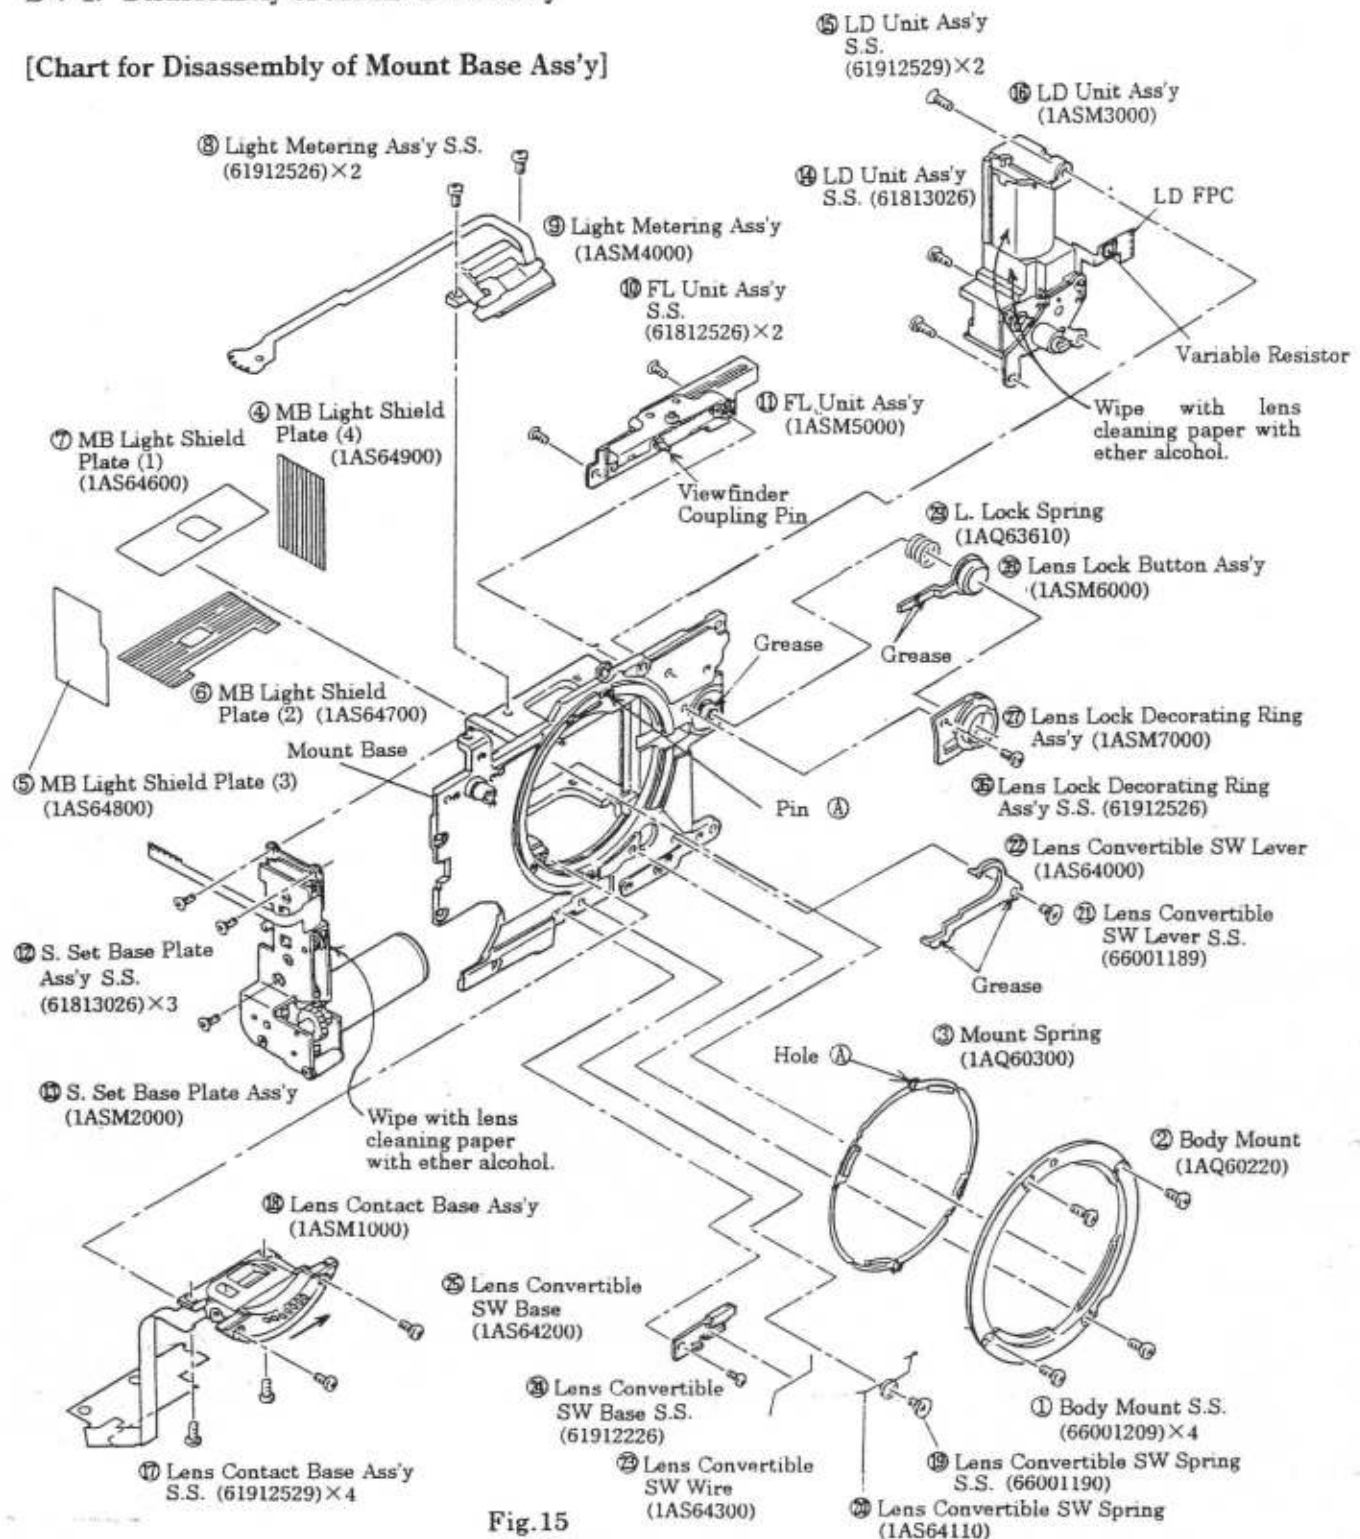

Fig.15
- 1) Remove parts in the numerical order of ① to ⑨ shown in Fig. 15.
- 3) Remove parts in the numerical order of ⑩ to ㉙ shown in Fig. 15.
- Do not use any of the MB Light Shield Plate (1) (1AS64600), MB Light Shield Plate (2) (1AS64700), MB Light Shield Plate (3) (1AS64800) and MB Light Shield Plate (4) (1AS64900) that have been peeled off once, since their adhesive strength is weak.
- Be sure to apply Grease (LOGENEST LAMBDA A-74) to the specified positions. (See Fig. 15)
- a) When installing the Lens Contact Base Ass'y (1ASM1000), push it in the direction of the arrow as shown in Fig. 15 and tighten the Lens Contact Base Ass'y Setscrews (61912529) $\times 4$.